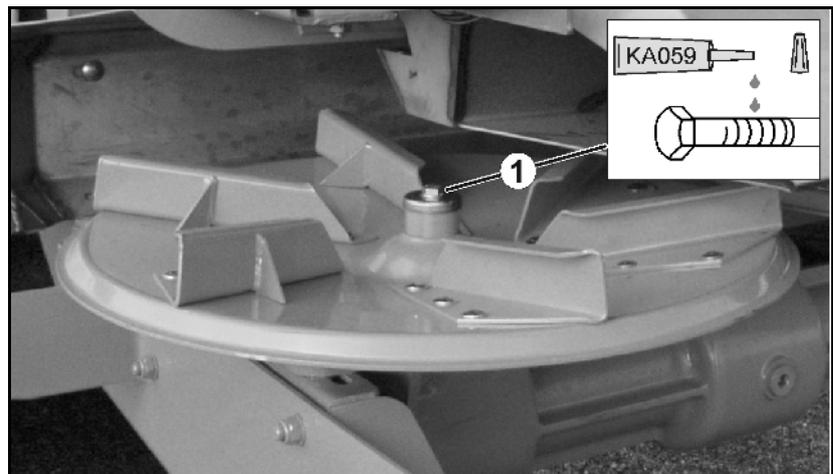

Fig. 113
1. Remove the M10 hexagonal bolt (Fig. 113/1).